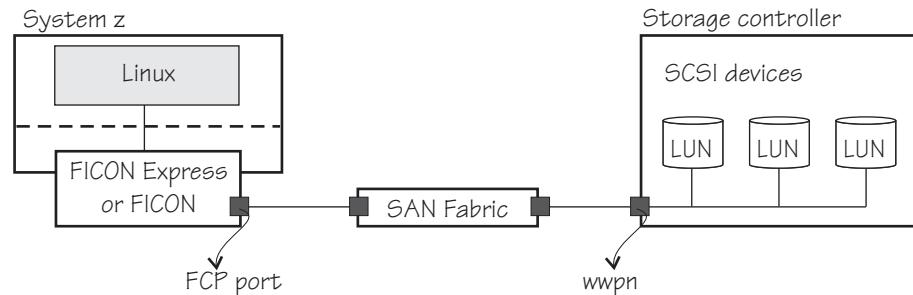

Figure 15. A storage system connected to a mainframe
- Using the correct WWPN. Every port has a WWPN, but the one you need is the storage controller WWPN, as illustrated in Figure 15. Talk to the person who configures the switches to find out what the correct WWPN is.
- The "Host Ports" (nomenclature used by the storage description) at the storage side must be configured to allow the access from the FCP adapter's port being used. The FCP port is illustrated in Figure 15.